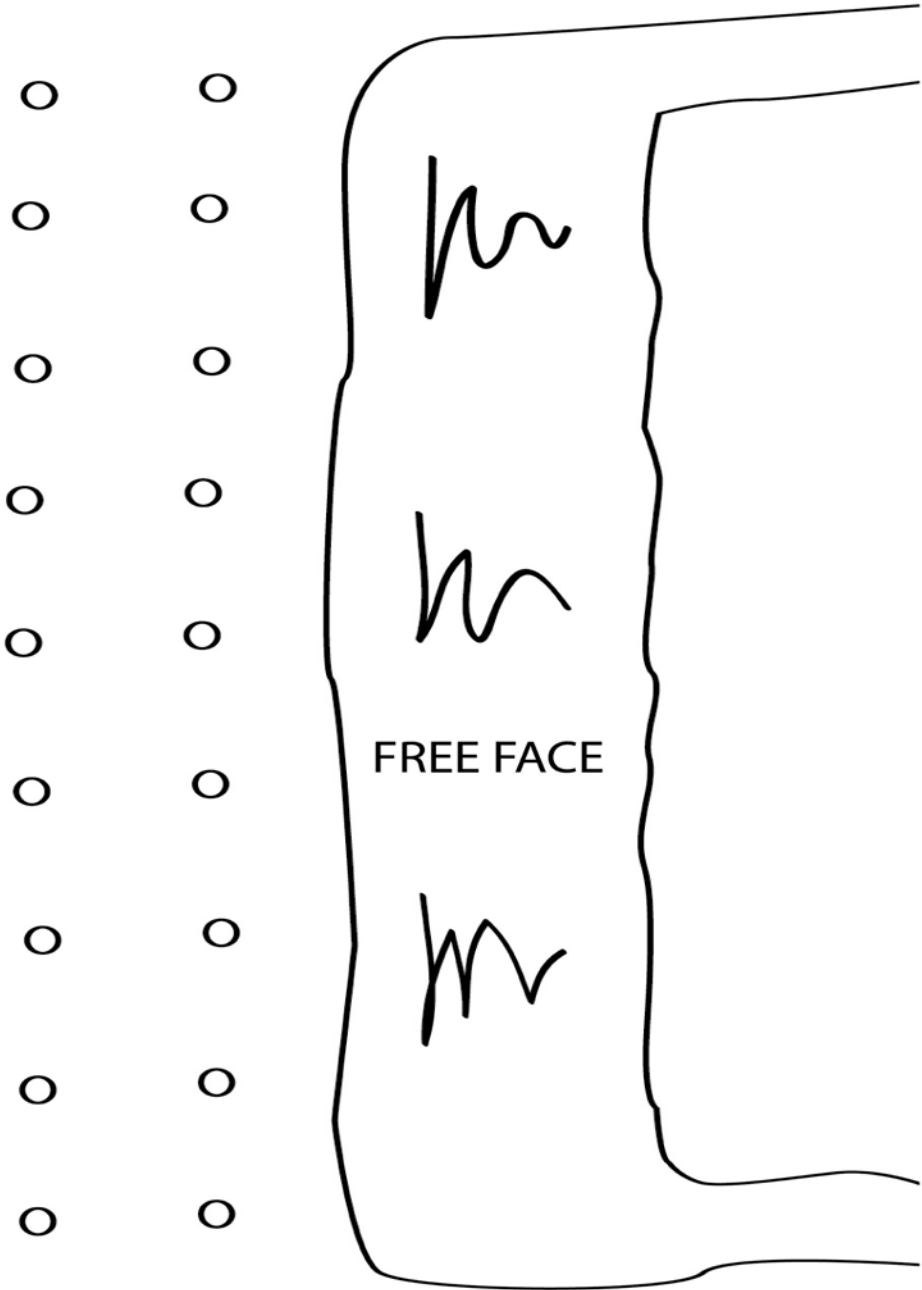

Figure 1
- [b] Draw up the blast sequence with one hole per delay using nonel initiation system on the blast pattern at Figure 1.